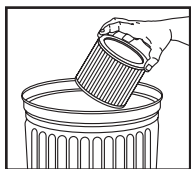

FIGURE 20
25. To clean cartridge filter shake or brush off excess dirt. **FIGURE 20.**